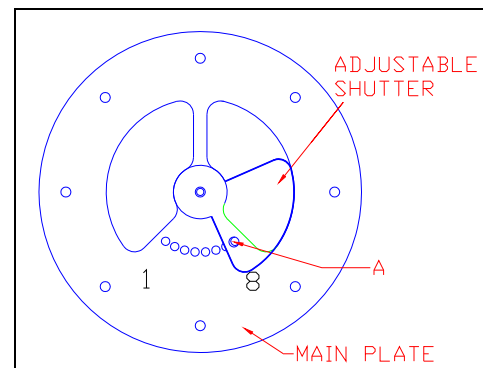

Figure 11: Restriction Plate Adjustments
The restriction plate is used to control the draft of the heater. Controlling the draft also changes the aesthetics of the flame. The restriction plate has eight settings, one (1) being the lowest and eight (8) being the highest. For a fast moving flame with lots of action, use a low setting. For a slow, lazy flame, a high setting should be used. See Figure 11 for instructions on how to adjust the restriction plate settings.
(Refer to Figure 11 for proper adjustment plate index location) ‘A’ in Figure 11 shows the locating screw that determines the position of the plate.